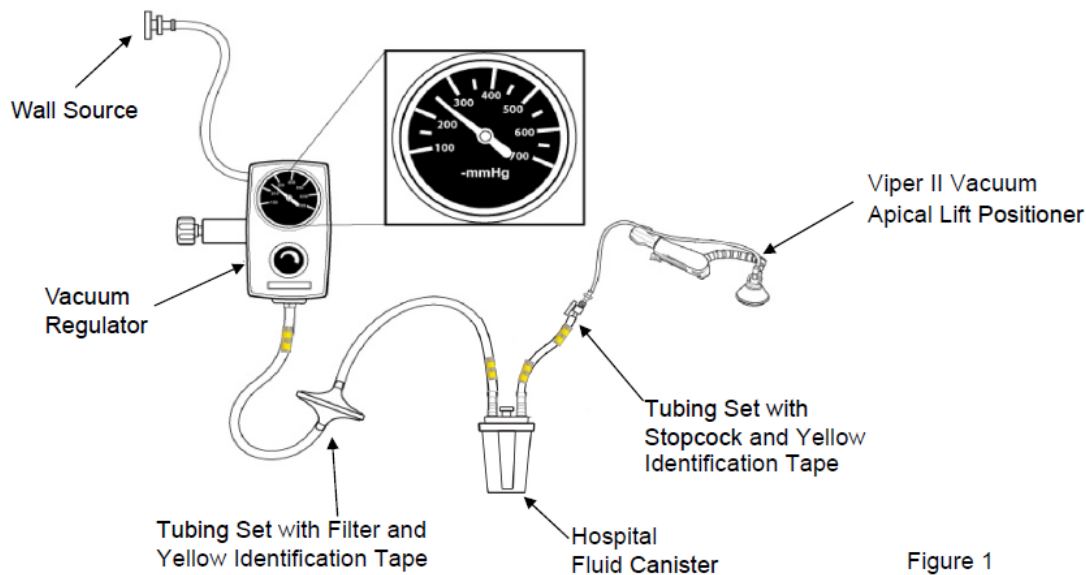

Figure 1
2. Per Figure 1, attach tubing (not supplied) from the operating room suction wall source to the back of the hospital's vacuum regulator. Turn regulator on and set vacuum to (-) 250 mmHg.